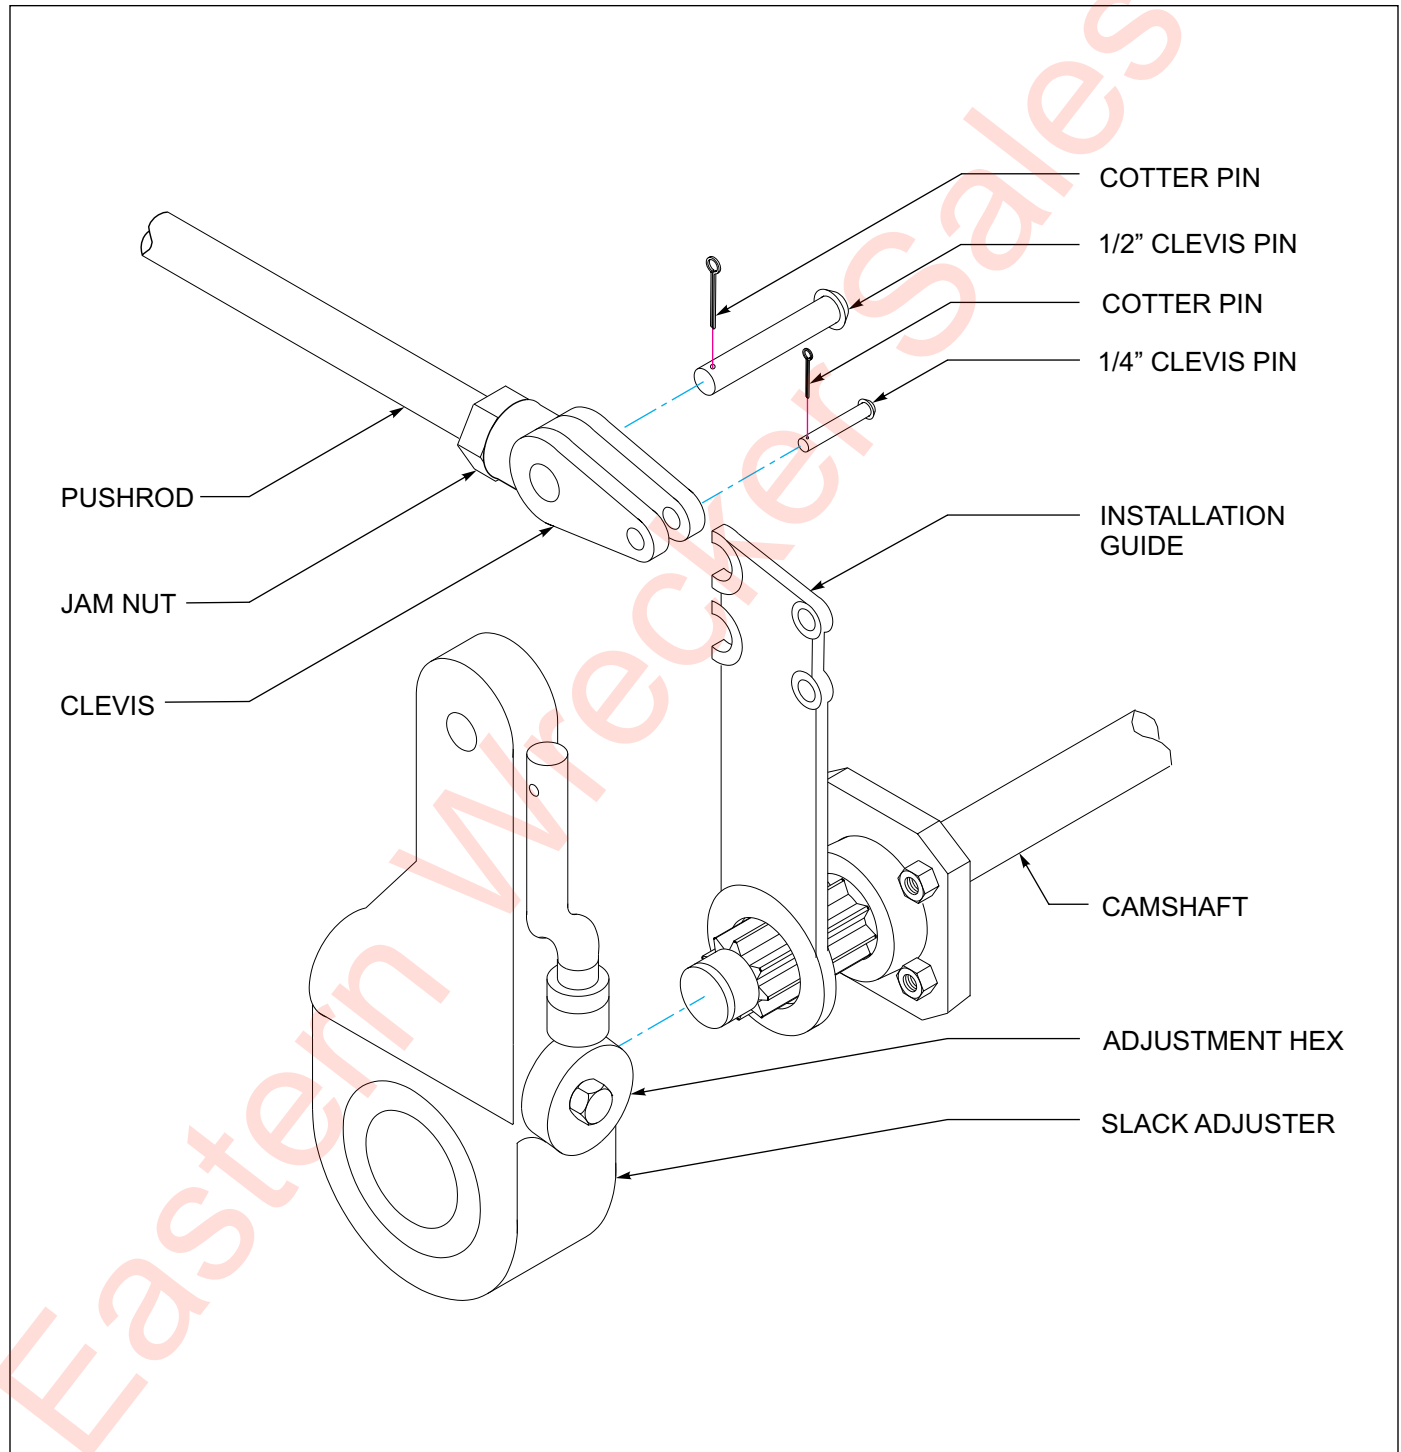

Figure 4-12: Slack Adjuster
4. Disconnect the slack adjuster from the connecting rod by removing the clevis pin (See Figure 4-12.)
4. Remount the brake chamber on the axle brackets and reconnect the air service hoses and the slack adjuster connecting rod (See Figure 4-12.)
2. Check that the push rod is fully retracted, apply air to release spring brake (See Figure 4-12.)
3. Remove the existing slack adjuster and clevis - DO NOT REMOVE EXISTING JAM NUT (See Figure 4-12.)
1. Rotate the manual adjuster clockwise until brake shoes contact drum (**See Figure 4-12.**)